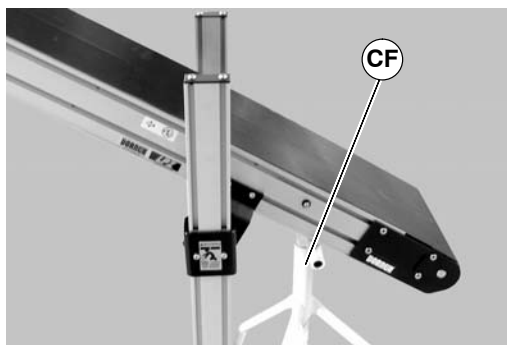

Figure 53
1. Place temporary support (CF of Figure 53) under conveyor sections.